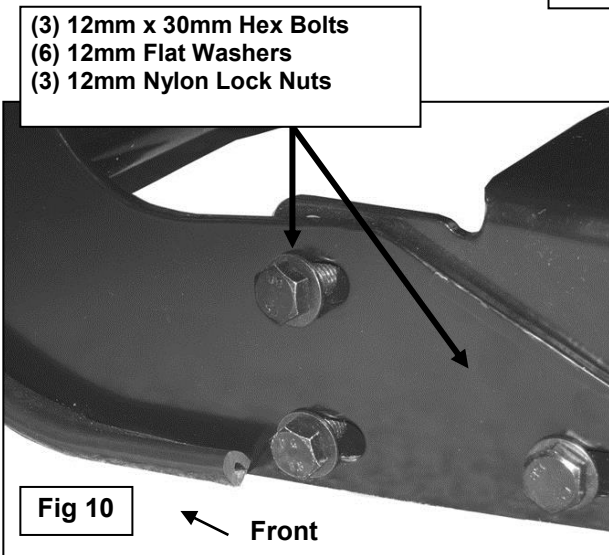

Fig 10
7. With assistance, position the mounting tabs on the Grille Guard up to the outside of the Frame Mounting Brackets and bolt together with the included (6) 12mm x 30mm Hex Bolts, (12) 12mm Flat Washers and (6) 12mm Nylon Lock Nuts, (**Figure 10**). Snug but do not tighten hardware at this time.